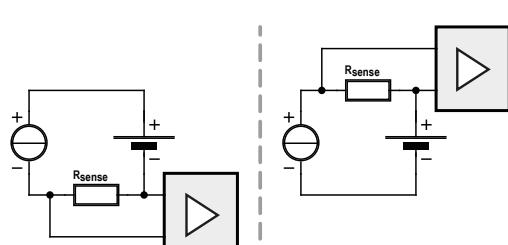

Figure 5. Two connections to a differential amplifier suffice simultaneously for power supply and for the measurement function.
**Figure 5** shows the mechanism graphically. Here it is important to understand that the thermostat is a web-server that responds to so-called HTTP GET requests. Such requests expect an answer in return, an HTML file or an
Figure 5. The thermostat is the server while the client is the phone, tablet or computer that displays the webpage. Four programming & scripting languages are used to make it all communicate.
The group of sensors that we in the English-speaking world classify as 'primitive' can be further divided into sensors that are self-powered from the signal under measurement and 'three-legged' sensors equipped with a third pin for the power supply. Shunt sensors differ from their simpler brethren; as shown in **Figure 5** they are provided with an in-circuit precision resistor. Used in combination with a differential amplifier, they can be used to gather data not referred to ground. Whether the shunt is then installed 'above' or 'below' is not of importance. The decision for and against a specific architecture is normally down to the sensor manufacturer. If you want to capture a specific magnitude, you should always keep the various topologies in mind when choosing the sensor.